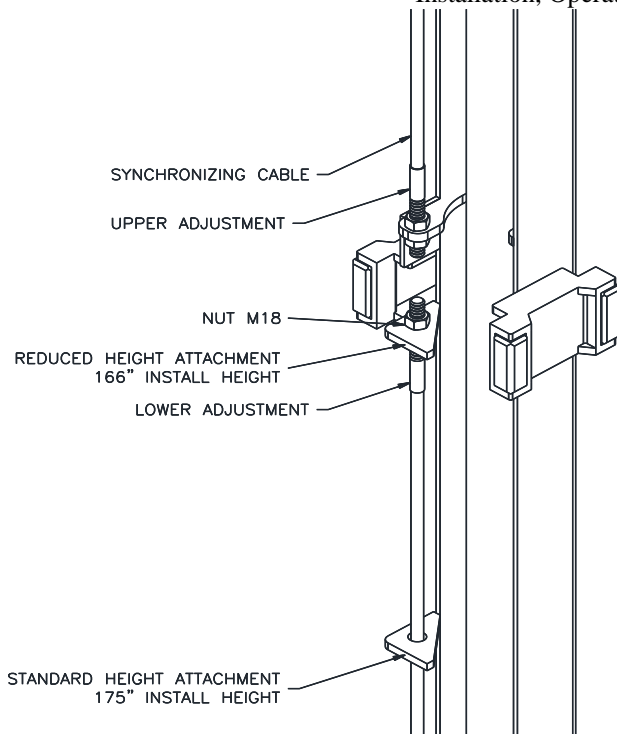

Fig. 5 – Synchronizing Cables
- Attach bolt-on parts to column extensions as shown in **Fig. 5** and assemble to columns using M12 x 30 Hex bolts. Ensure power extension assembly is bolted to power column. NOTE: Install Nut and Washers on exterior of the assembly
- 16) Attach one end of synchronizing cable to carriage. See **Fig. 5** for proper attachment.
- 17) Route cable up and over sheave in overhead. Follow across to other sheave on opposite column. Route down through carriage to sheave in bottom of column. Route under sheave and up to cable attachment. Lower attachment point is used for Standard Height Installation (175") and the Upper attachment point is used for Reduced Height Installation (166"). Use **Fig. 5** for proper attachment.